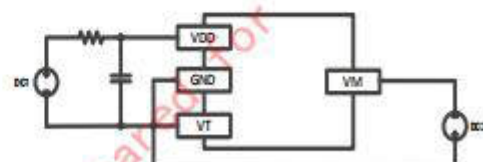

Figure6-4
a. According to the figure6-4, connect the DC1 power supply to the B + and GND pins of the system board and set the voltage to about 3.0V/3.6V/4.2V, and load DC2 power supply from GND to VM.